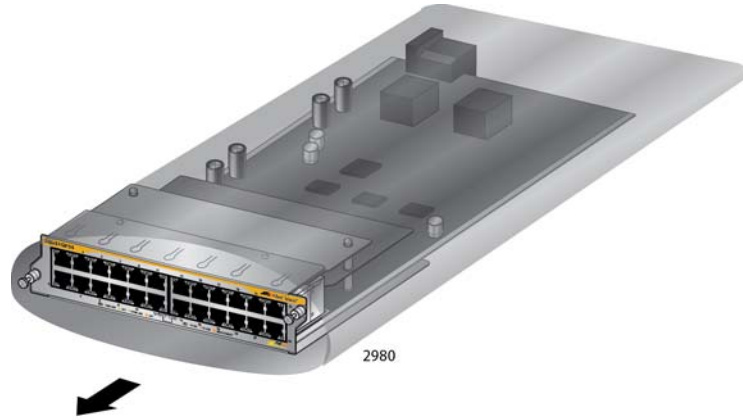

Figure 67. Removing an Ethernet Line Card from the Anti-static Bag
3. Carefully remove the Ethernet line card from the anti-static bag. Refer to Figure 67 on page 127.